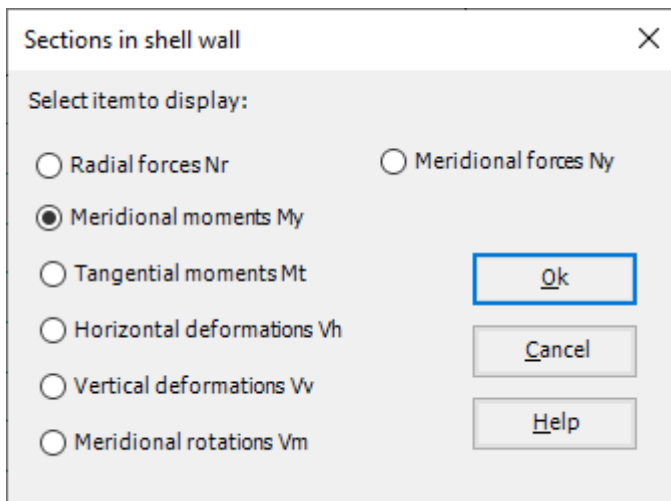

Figure 4.25 "Sections in shell base" option box
- Choose "Sections in shell wall" command from "Section" menu. The following option box in Figure 4.25 appears